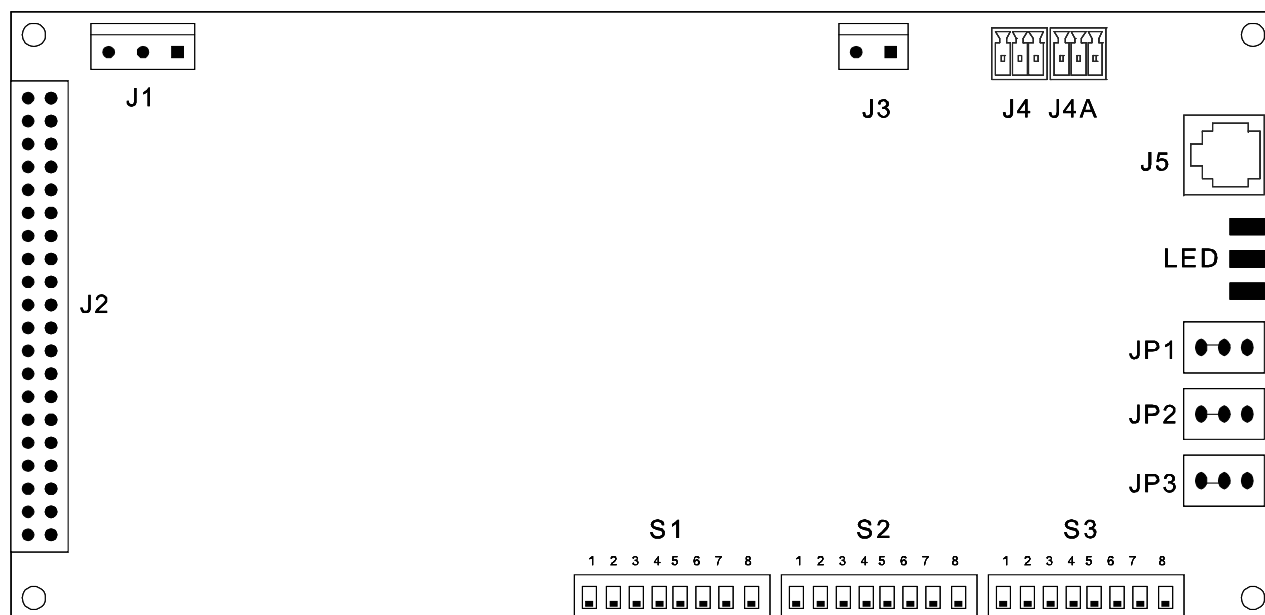

Figure 2-6
There are three (3) status and alarm indicators located on the SM-DU. The functions of these indicators (from top to bottom as shown in the illustration) are as shown in Table 2-1. Refer to Figure 2-6 for location.